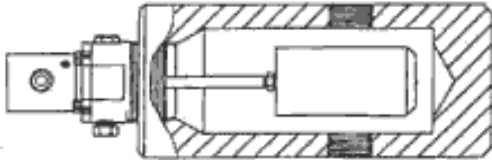
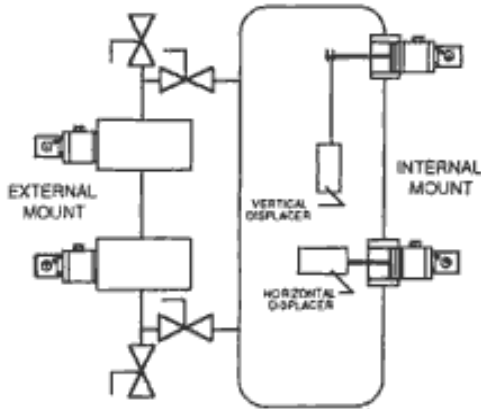

FIGURE 1
FIGURE 2
The K-Dyne, Inc. pneumatic version of the Model L80 is a 2" NPT mounted liquid level switch. It is typically mounted in a K-Dyne Model C80 cage shown in the Figure 1 for external bridle mounting or may be internally mounted in a 2" NPT (F) connection. Both mounting configurations are shown in Figure 2.
It is suggested that the Model L80 be installed in an external cage for maintenance and testing purposes. A recommended piping system for mounting an external cage to a vessel is shown in figure 2. The valves above and below the cage are required for testing and maintenance purposes.
## 5.0 DISSASSEMBLY (Refer to figures 1 & 3)